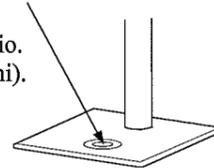

Fig. 1
- \* The switch is operated by touching the metal portion in the center (see Fig. 1).